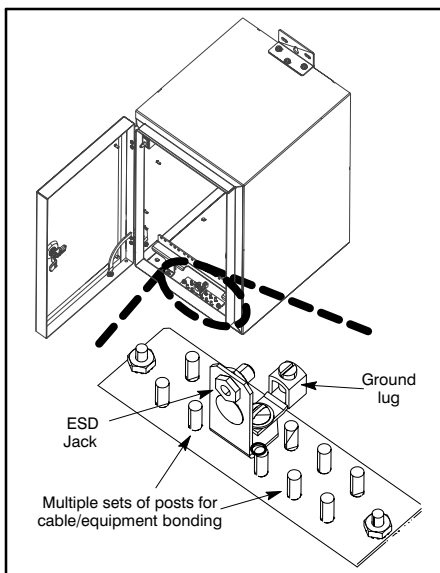

Figure 11. Ground Plate for Equipment and Cable Grounding
Five sets of bond/ground posts are provided on a ground plate on the interior floor of the cabinet (see Figure 11). These posts are provided to bond network and customer equipment or communications cables. **Make all ground connections prior to any telecommunications cable connections.**
3. **Ground cables and installed equipment.** As each cable and piece of equipment is mounted inside the cabinet (in the following sections), connect it to a ground lug or post provided on the ground plate (see Figure 11), per company practice.